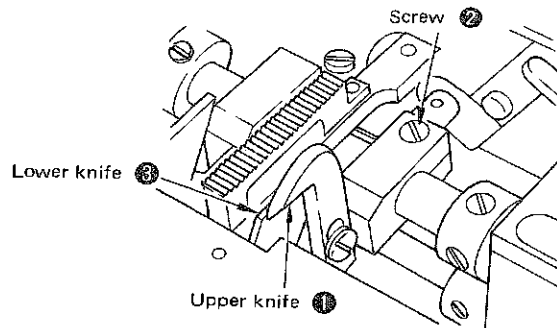

Fig. IV-7-1
- 1) Adjust so that upper knife ① engages with lower knife ③ by 1 mm in its lowest dead point when the lower knife ③ is in its standard position. Loosen screw ②, and adjust the position of the knives. Now adjust the position of upper knife ① while lightly pressing back lower knife ③. If you do not do this, the lateral position of upper knife ① may change from its correct position. In the case the moving amount of upper knife is set to the standard value of 5 mm, a clearance of 4 mm should be obtained between the top end of upper knife ① and lower knife ③ when the upper knife ① is in the highest position of its stroke. (See Fig. IV-7-1)